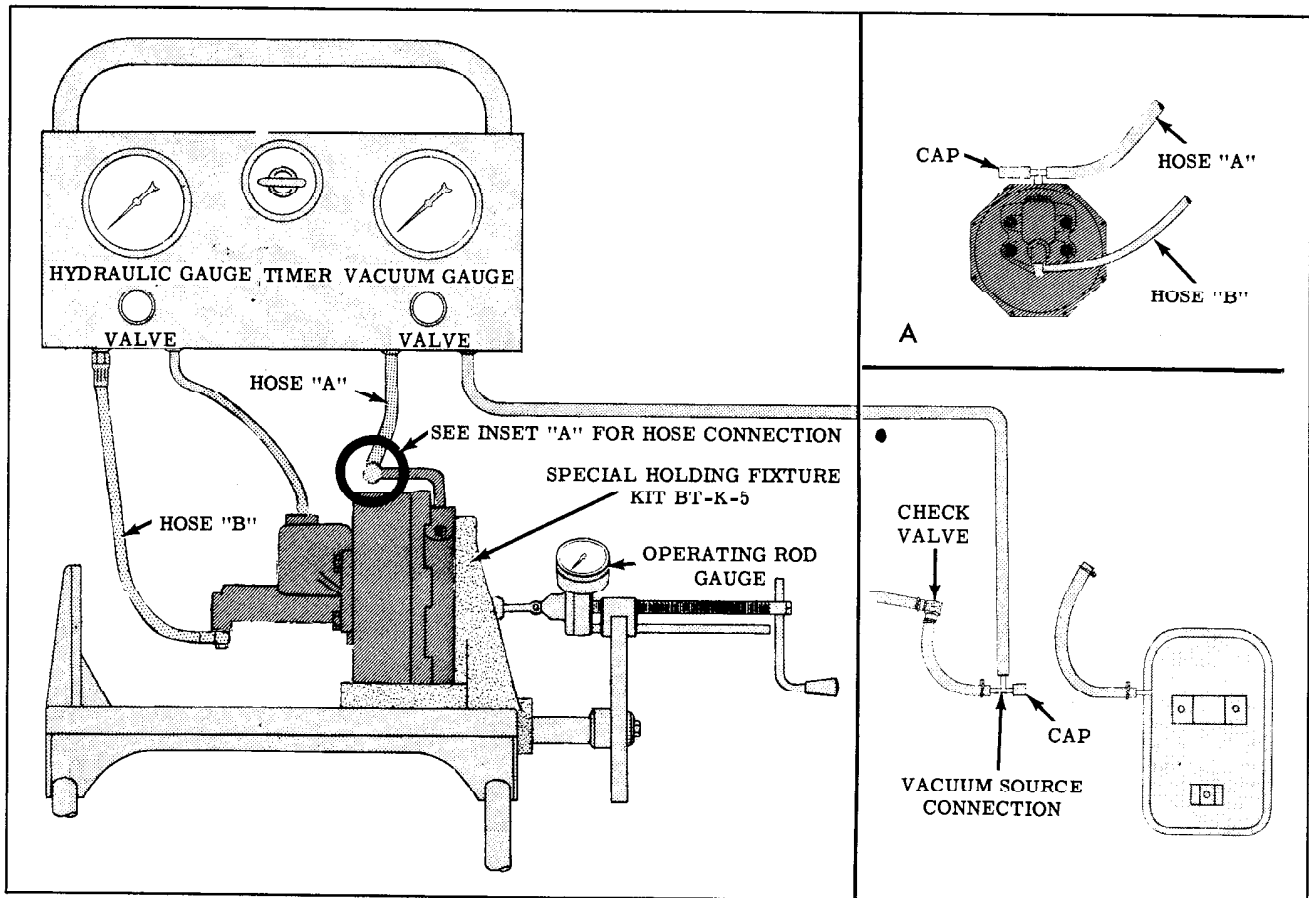

Fig. 7-37 Hose Connections (Testing on Test Stand)
4. Connect tester hoses as shown in Fig. 7-37.
1. With tester hoses connected as shown in Fig. 7-37, open the tester vacuum gauge valve. With the engine running at slow idle, the gauge should read 19" to 21".
1. With tester hoses connected as shown in Fig. 7-37, close the vacuum gauge valve and operate the brake operating rod until vacuum gauge drops to zero.
With the tester hoses connected as shown in Fig. 7-37, the test is made with the engine running at slow idle, the vacuum gauge valve open and the hydraulic gauge valve closed. The vacuum gauge should read 19" to 21".
Check No. 1 (Fig. 7-37)